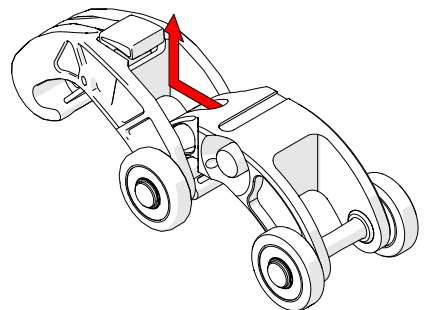

Fig. 100 - Slide link forward and lift
2. While pressing the red button, slide the dovetail link forward and up, clearing the hook of the dovetail link from the short link's axle (Fig. 100).